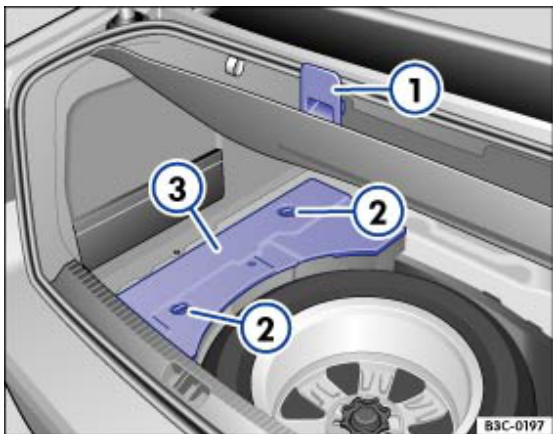

Fig. 222 In the luggage compartment under the floor covering ①: spare wheel and cover ② for vehicle tools
In a foam rubber holder under the floor covering:	<ul style="list-style-type: none"> <li>– Attach the floor covering to the upper edge of the luggage compartment → Fig. 222 ①.</li> <li>– Turn quick-release catches → Fig. 222 ② 90° in order to remove the cover → Fig. 222 ③ of the vehicle tools.</li> </ul>